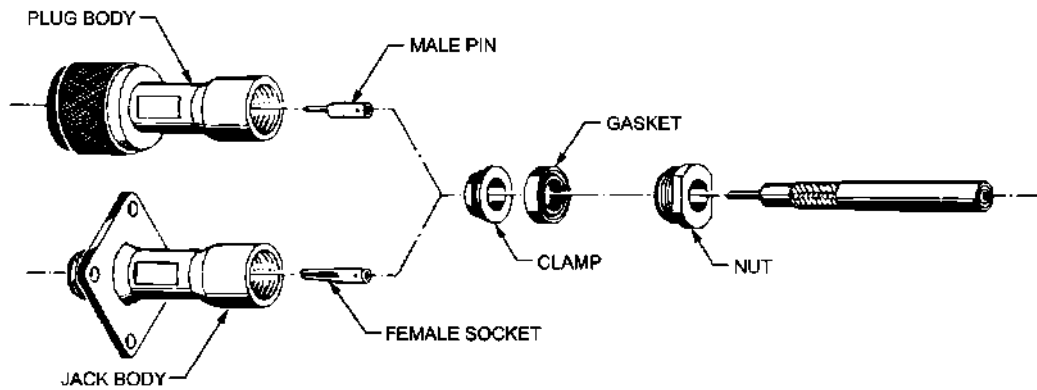

Figure 12-23 Improved HN Connectors - Exploded View
- Improved Version.** Consists of a plug or jack body assembled to coaxial cable with nut, gasket, and braid clamp (see Figure 12-23). Plug UC-59E/U and jack UG-60E/U are typical of this version.
- Disassemble nut, grooved gasket and braid clamp from plug or jack body. (See Figure 12-23.)